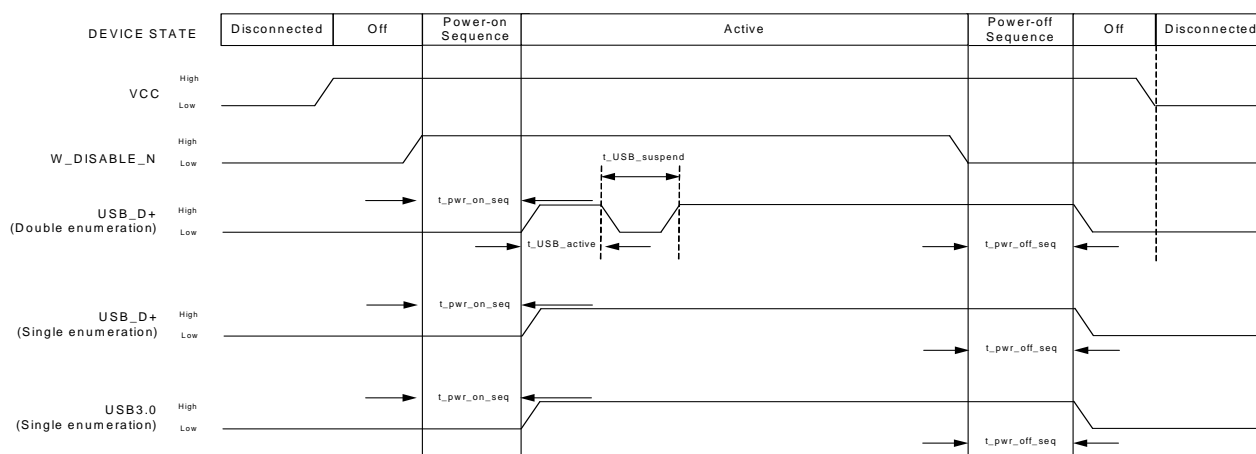

Figure 5-2: Signal Timing ($W_DISABLE_N$, and USB Enumeration)
Figure 5-2 describes the timing sequence for powering the module on and off.
- Double enumeration—As shown in Figure 5-2 on page 51: